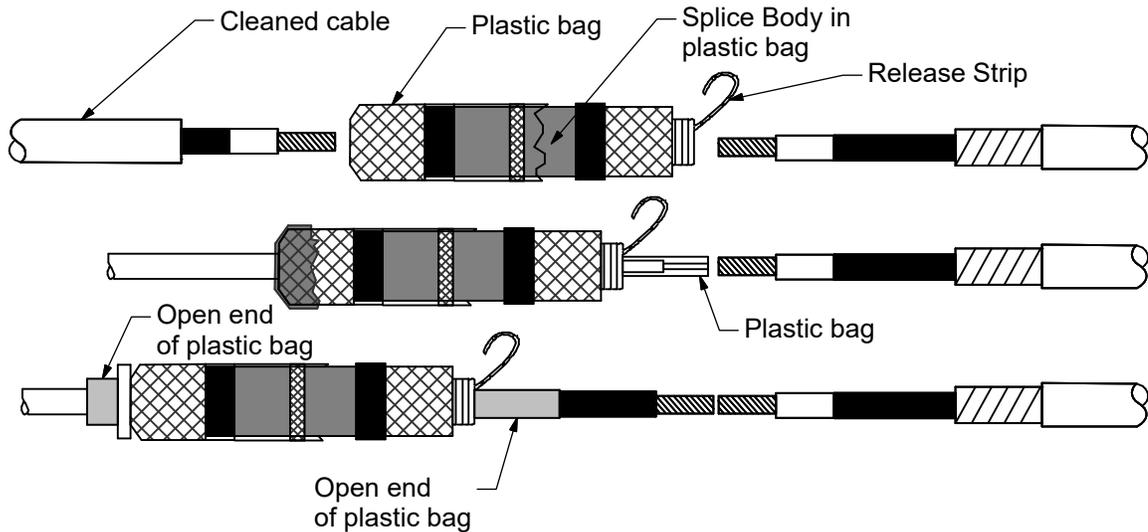

Figure 3
- C. Figure 3 shows the placement of the splice body on the cable. Also shown in Figure 3 is the optional use of the plastic bag supplied with the splice body to cover the cable to maintain cleanliness.